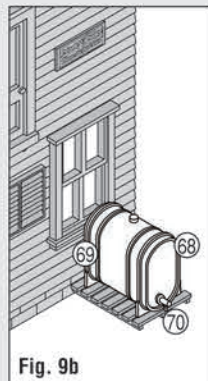

Fig. 9b
- Glue Kerosene Tank Side (68) to (69), then attach Nozzle (70). Glue to Skid (67). (Fig. 9b)